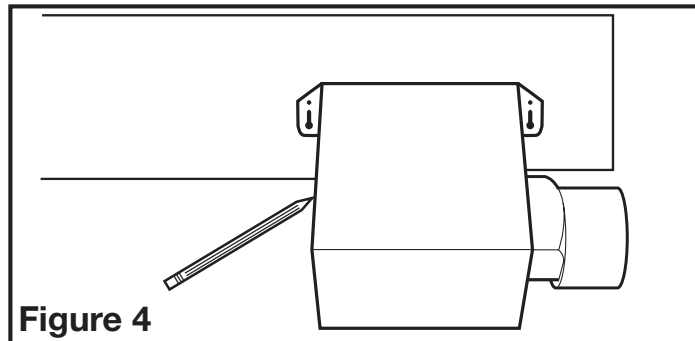

Figure 4
- 1b. **Mounting Tab Installation:** Position housing against the joist and trace an outline of the housing onto the ceiling material (Figure 4). Set housing aside and cut opening, being careful not to cut or damage any electrical or other hidden utilities. Place housing next to the joist and insure that it is flush with the finished ceiling. Secure with four nails or screws (not provided) to ensure proper installation (Figure 2).